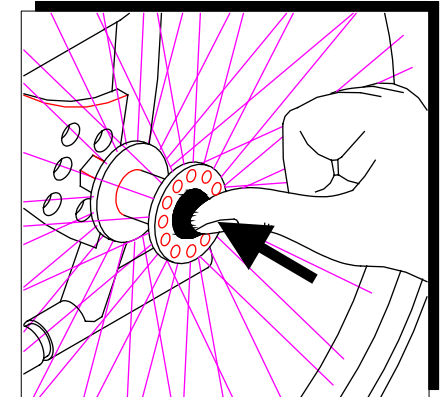

fig. 1
- push the sliding button placed on the centre of the hub (fig. 1)